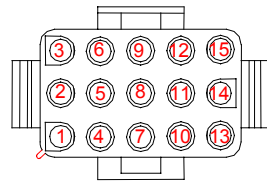

Figure 6: The numbering arrangement of the computer plug is shown above.
17. With a pin pusher, remove wire 17C from pin 3 of the plug. See Figure 6.